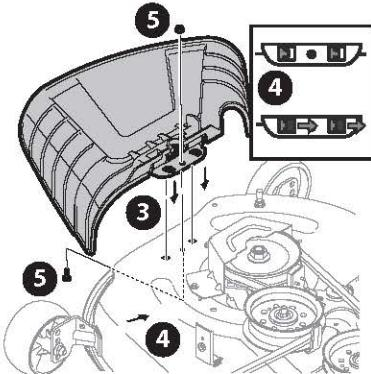

Figure 18
3. Place the chute deflector on the deck, be sure to insert the tabs on the chute deflector into the holes on the deck (Figure 18).
4. Slide the chute deflector toward the rear of the tractor until the bolt hole in the chute deflector aligns with the hole in the deck (Figure 18).
5. Secure the chute deflector in place with the flange lock nut and hex screw removed in Step 2. Tighten to 102-124 in-lbs (12-14 N·m) (Figure 18).